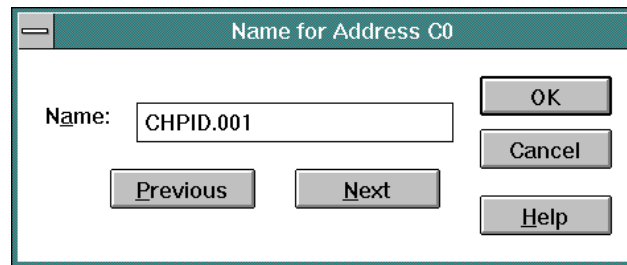

Figure 138. Name for Address Dialog Box
6. Move the mouse cursor to the *Name* column for port address **C0**. Select the *Names* option from the *Edit* menu or double-click the mouse. The *Name for Address* dialog box appears (Figure 138).